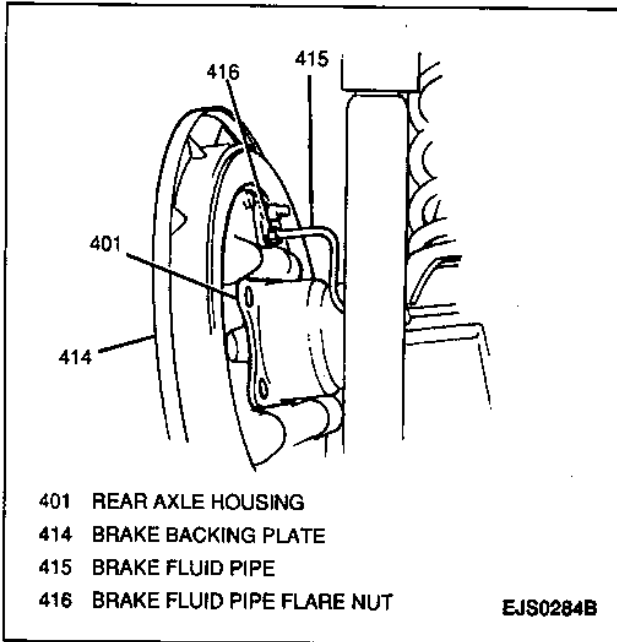

Figure 28—Rear Brake Fluid Pipe and Backing Plate
20. Rear brake fluid pipes from rear wheel cylinders and separate both brake backing plates from rear axle housing (Figure 28).